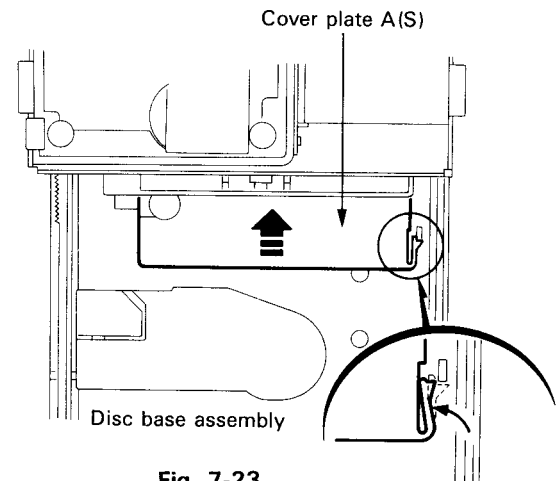
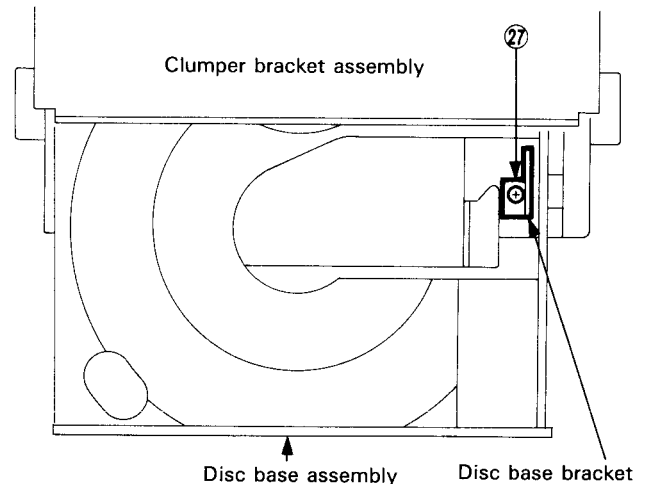

Fig. 7-23
Fig. 7-24
(Refer to Figs. 7-23 and 24)
3. After turning over the CD changer mechanism assembly, turn the gear G4 manually in the direction of arrow as shown in Fig. 7-23, and raise the CD mechanism assembly.
5. After turning over the CD changer mechanism assembly, move the point ③ engaging the cover plate A (S) and disc base assembly in the direction of arrow and disengage the above plate and assembly.
6. After turning the CD changer mechanism assembly back to the normal position, remove the one screw ②7 retaining the disc base bracket visible from notched window of the disc base assembly (Refer to Fig. 7-24).